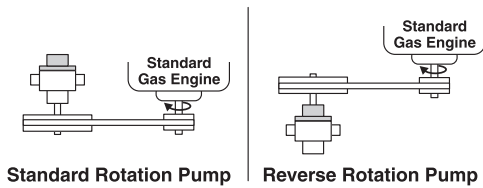
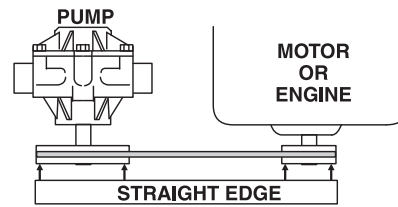

Figure 3
Figure 4
1. Install pulley or bushing/sheave combination onto pump and motor shaft. Mount pump next to the motor making sure pulleys are lined up properly. (See Figure 3 for proper pump and motor orientation.) Use a straight edge as shown (Figure 4). Rotate to check for run-out and bent shafts and replace if found.